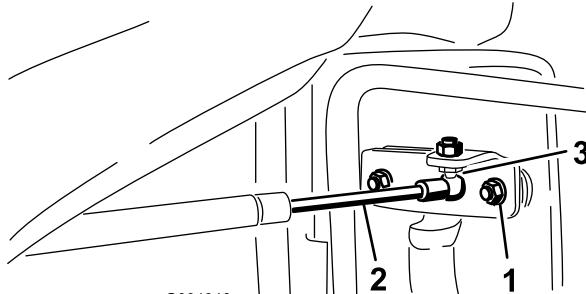

Figure 63
- Remove the clip securing the door closer socket to the door bracket ball (Figure 63).